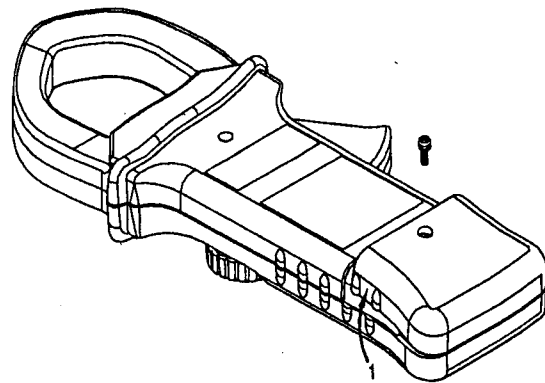

Figure 24. Step 1 of Battery Replacement.
2. Loosen screw on battery cover, then pull up the cover slightly, see Figure 24.